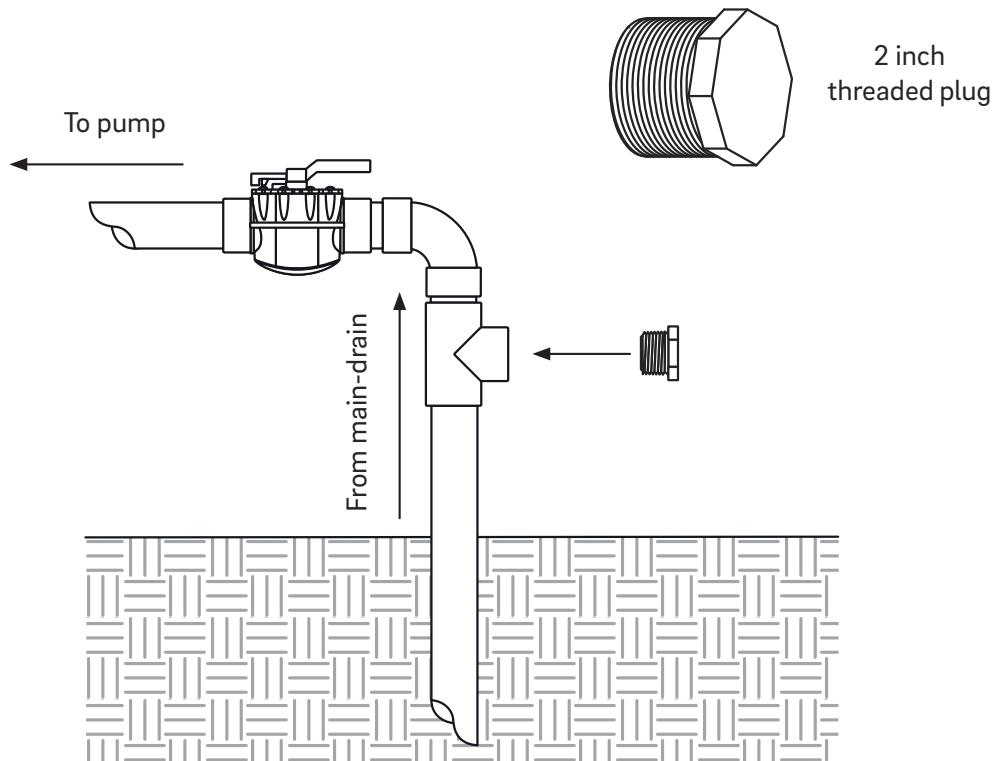
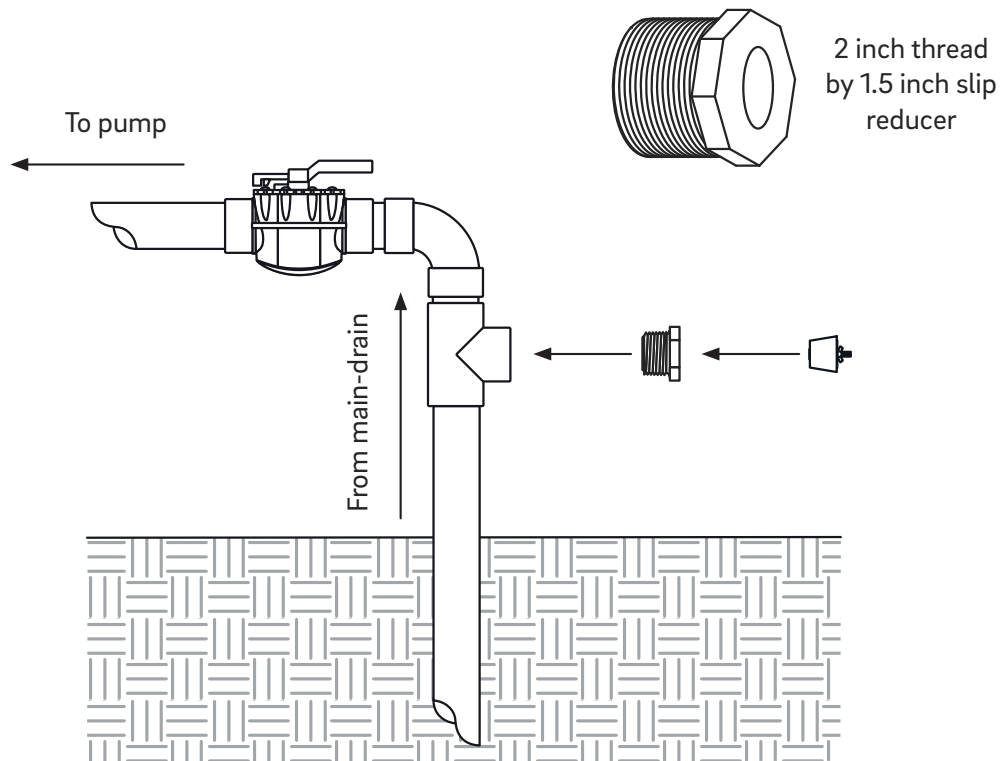

Figure 22
Figure 23
2. Between the 2-Way shut-off valve and the drain, install a Tee fitting with a 2 inch threaded branch. This will allow a 2 inch threaded plug to be removed later during the winterization process (Figure 22).
4. Remove the 2 inch threaded plug (Figure 22) and replace it with a 2 inch thread by 1.5 inch slip reducer bushing (Figure 23).